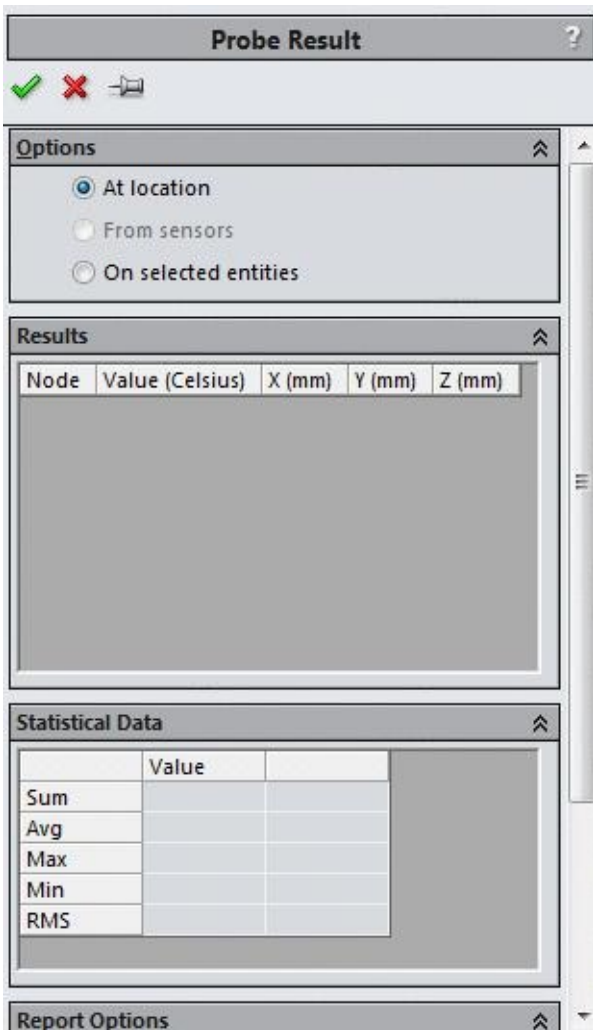

Figure-27. Probe Result PropertyManager
- The **Probe Result PropertyManager** will be displayed; refer to Figure-27.